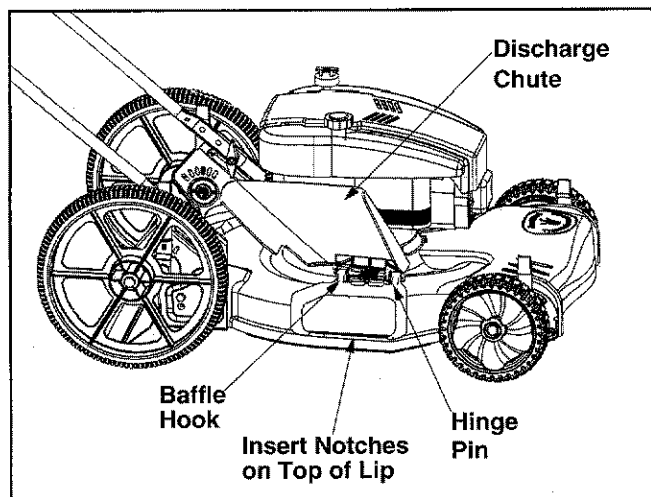

Figure 6
- Lift up side discharge chute and insert the mulching baffle so that the notches at the bottom of the baffle sit firmly on the lip of the deck opening. See Figure 6.